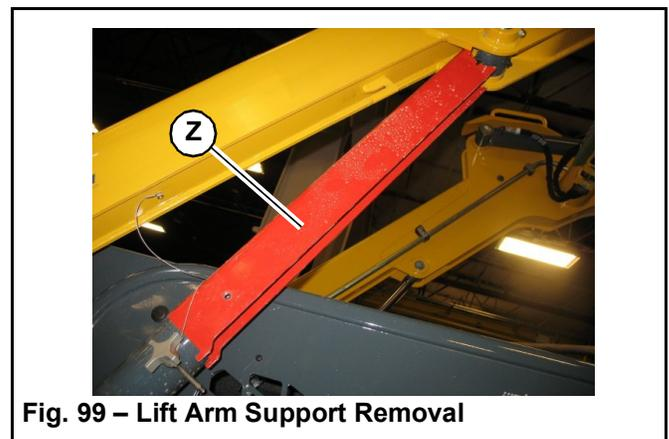

Fig. 99 – Lift Arm Support Removal
- a. Remove lift arm support (Z, Fig. 99) from the cylinder rod.